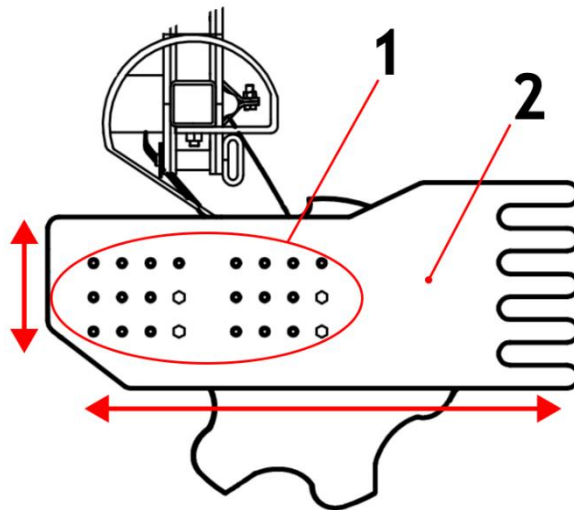

Figure 22 Adjustment of the side screen position (1 – adjustment holes for the side screen position relative to the bracket, 2 – side screen)
The side screen should be positioned and locked with a screw at a height so that it is above the soil surface and not exposed to impacts from stones or the accumulation of crop residues. If necessary, it should also be adjusted forward or backward by mounting it on the available adjustment holes (Fig. 22, item 1) so that it prevents the soil thrown by the outer front disc from falling off and collects the furrow behind the outer rear disc.